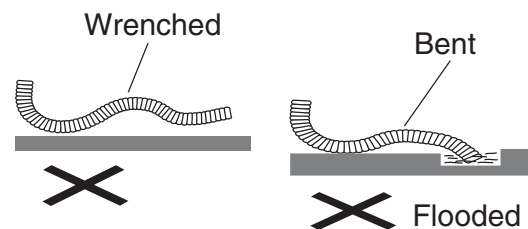

Fig.14
2. Do not wrench, bend or heave the drainage hose or flood its end by water. (Fig.14)